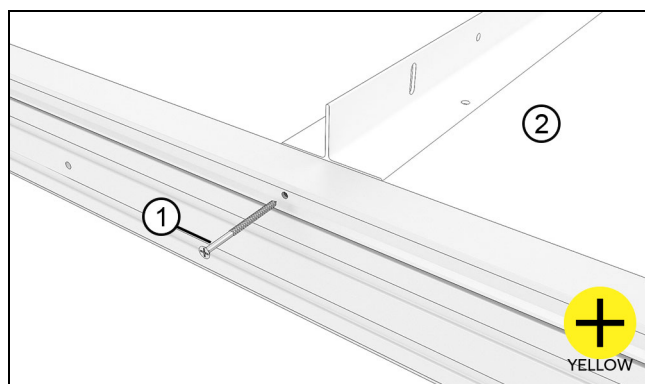

Figure 53 Fasten interlock to head jamb
11. Fasten the pocket interlock to the head jamb using a #8 x 2 1/2" (6) screw through the pre-drilled hole in the head jamb. See Figure 53.